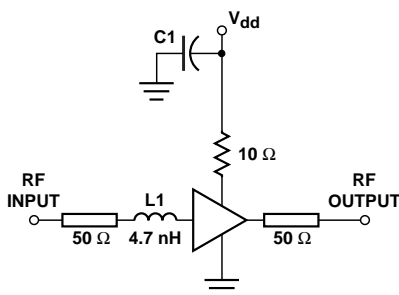

Figure 10. Test Circuit for 2 GHz.
- Guaranteed specifications are 100% tested in the circuit in Figure 10 in the Applications Information section.
The circuit shown in Figure 10 is used for 100% RF testing of Noise Figure and Gain. The input of this circuit is fixed tuned for a conjugate power match (maximum power transfer, or, minimum Input VSWR) at 2 GHz. Tests in this circuit are used to guarantee the  $NF_{test}$  and  $G_{test}$  parameters shown in the Electrical Specifications table.
The test circuit in Figure 10 illustrates a suitable method for bringing bias into the MGA-87563. The bias connection must be designed so that it adequately bypasses the  $V_{dd}$  terminal while not inadvertently creating any resonances at frequencies where the MGA-87563 has gain.
The input of the MGA-87563 is partially matched internally to 50  $\Omega$ . The use of a simple input conjugate matching circuit (such as shown in Figure 10 for 2 GHz), will lower the noise figure considerably. A significant advantage of the MGA-87563’s design is that the impedance match for  $NF_o$  (minimum noise figure) is very close to a conjugate power match. This means that a very low noise figure can be realized simultaneously with a low input VSWR. The typical difference